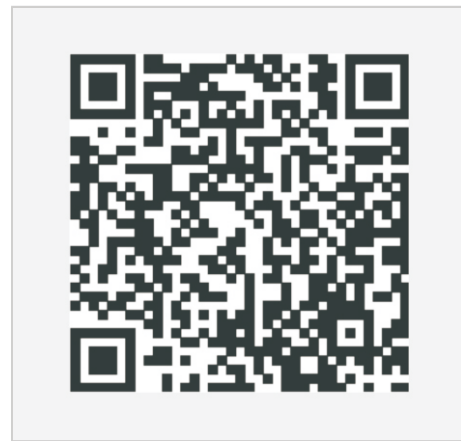

Figure 1
- B. Scan QR code below to download Makeblock app.(Figure 1)